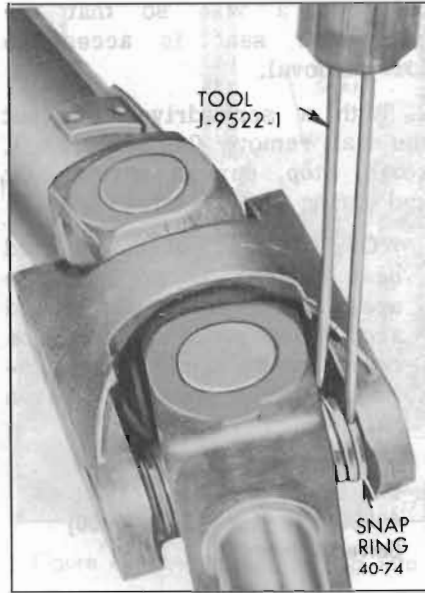

Figure 40-62—Removing Snap Rings from Propeller Shaft
the inside of the link yoke and can be removed with the assistance of Tool J-9522-1. See Figure 40-62.
1. Remove snap rings from the bearings. The snap rings are on the inside of the yoke and can be removed with the aid of Tool J-9522-1. See Figure 40-62.